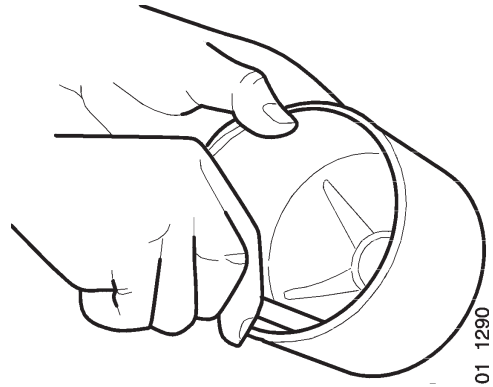

Figure 5
5. Scrape off the deposits from the inside of the rotor bowl (Figure 5).